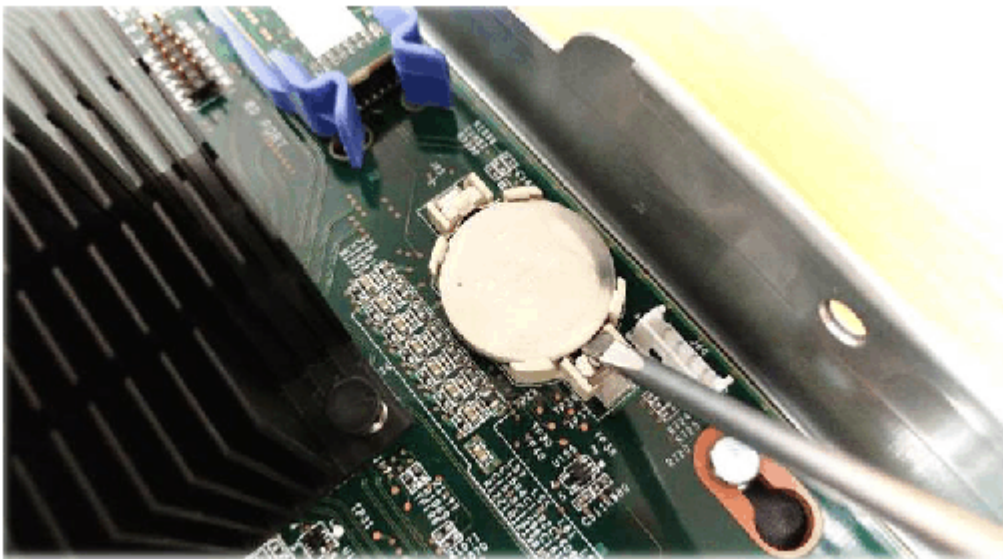

Figure 94. Replacing a CMOS battery
4. Use a flat head screwdriver to gently pop the CMOS battery out of the battery holder, as shown in Figure 94 on page 134. However, do not remove or loosen any screws in the node canister.